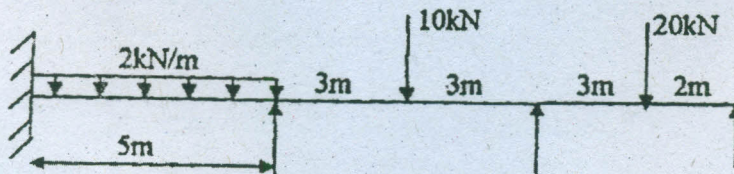

Fig. Q. 15(a)
15. (a) Analyse the continuous beam shown in Fig. Q. 15(a) using moment distribution method and draw the bending moment diagram and shear force diagram. EI is constant.